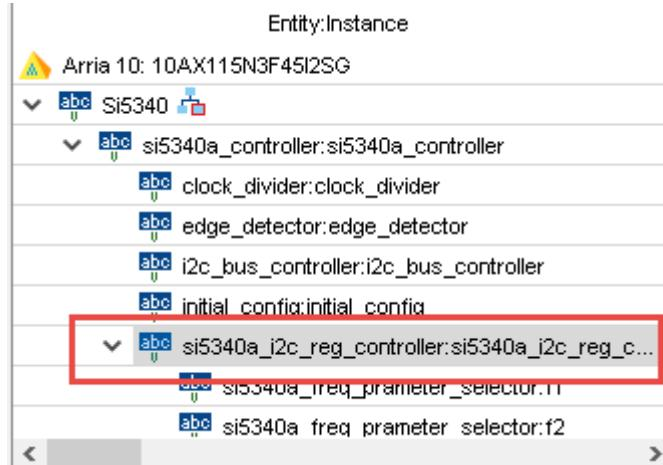

Figure 5-8 Sub-Module file "si5340a_i2c_reg_controller.v"
- Open Si5340 control IP sub-module “si5340a_i2c_reg_controller.v“ as shown in**Figure5-8**, refer Design Report parameter to modify sub-module corresponding register value (See **Figure 5-9**).